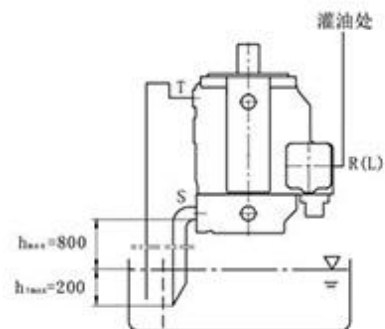

图2
b) 如油箱的最低液面低于泵的法兰面，《R/L》口、《T》口以及可能包括《S》口必须用管道连接，如图2所示。此情况与本节《安装在油箱外》中所述的相同。
When the minimum level in the tank is lower than the flange face of the pump, port R/L, T and possible port S must be connected with pipes, as shown in Figure 2. This situation is same as what is specified in Mounting outside of the Tank in this section.
在安装前，泵水平卧置并灌满油液。《T》口通油箱，《R/L》口堵。在安装时的灌油：通过《R/L》口灌油，通过《T》通气，然后将《R/L》口堵死（见图2）。